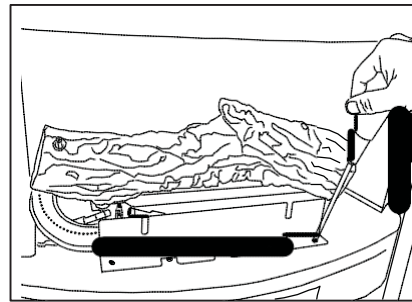

Figure 31a - GSD3033 Log Bracket and Control Panel
15. GSD3033 Remove screws securing front log bracket and control panel (see Figure 31a).